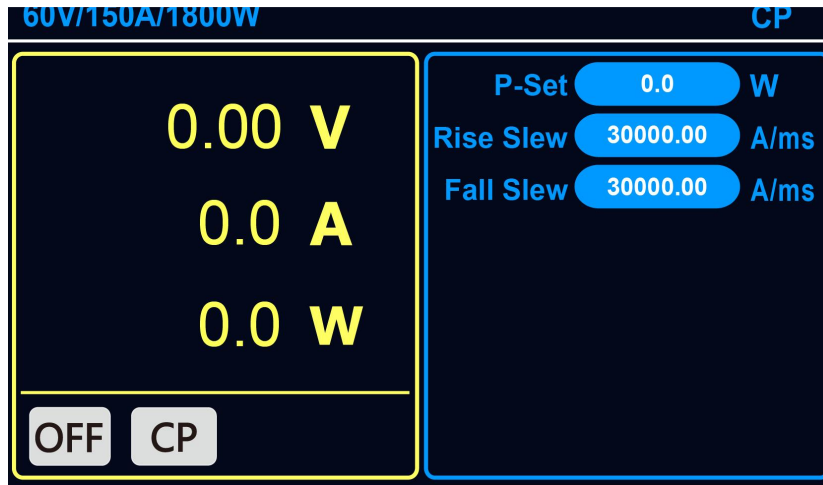

Figure 24 CP mode
5. Press the "On/Off" key to turn on, and the display state is "ON", as shown in Figure 24.